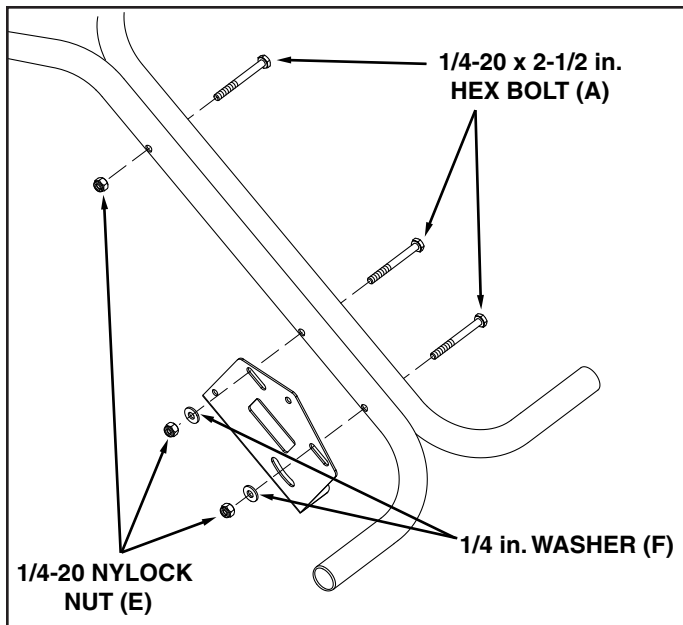

FIGURE 5
8. Attach the two upper handles together with the flow control bracket as shown using three 1/4 x 2-1/2 in. bolts and nylock nuts. **Do not tighten** two bolts in flow control bracket. **Tighten** third bolt in upper handles. See figure 5.